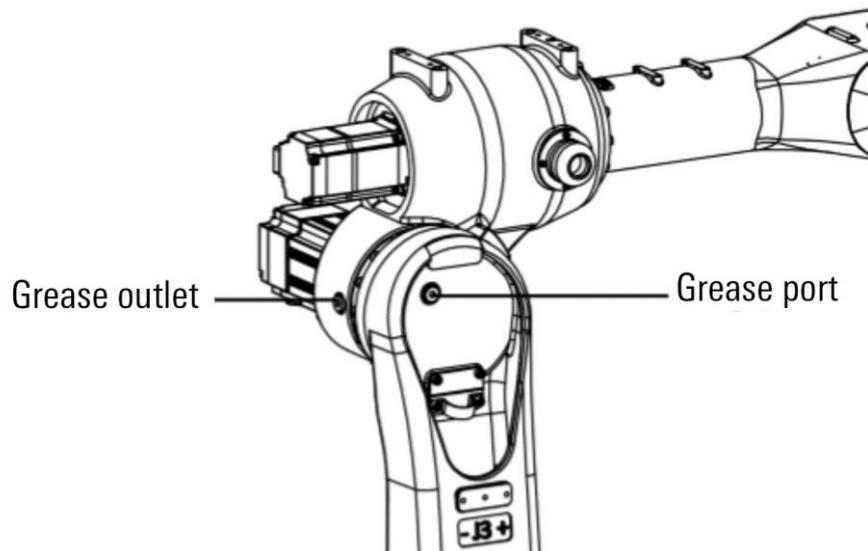

Figure 12-8 AIR10-1720B replacement of J3 axis reducer grease
- Step4. Remove the grease outlet M10x1 plug, as shown in Figure 12-8.